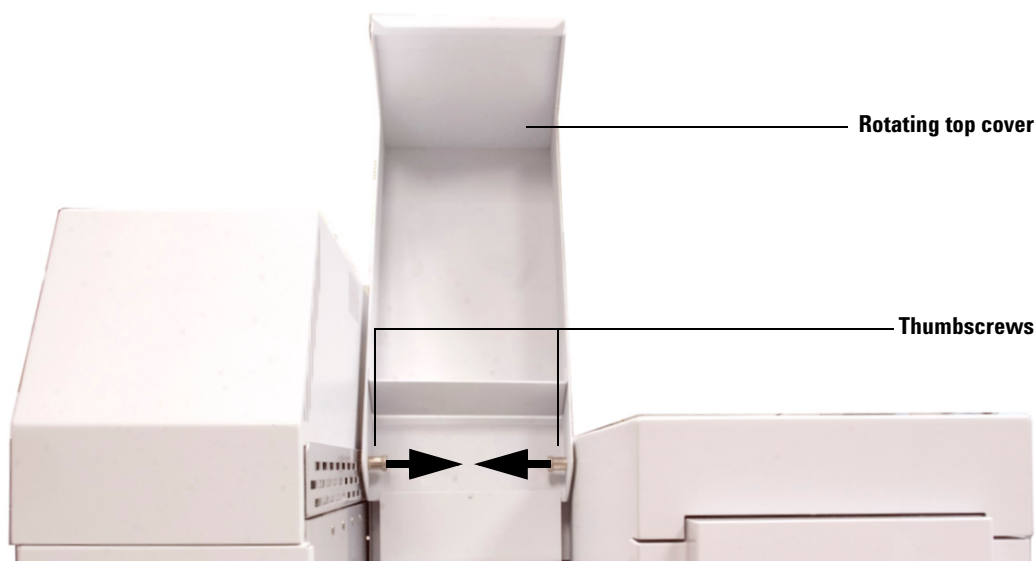

Figure 5 Removing the rotating top cover
- 1 Remove the rotating top cover (Figure 5).